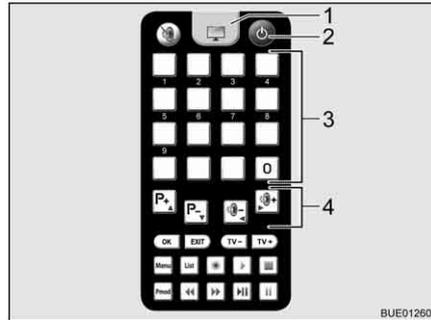

Fig. 23 Remote control
- Press the key "⏻" (Fig. 23,2) on the remote control.
- Use the memory buttons (Fig. 23,3) or the function buttons (Fig. 23,4) to set the required transmitter.